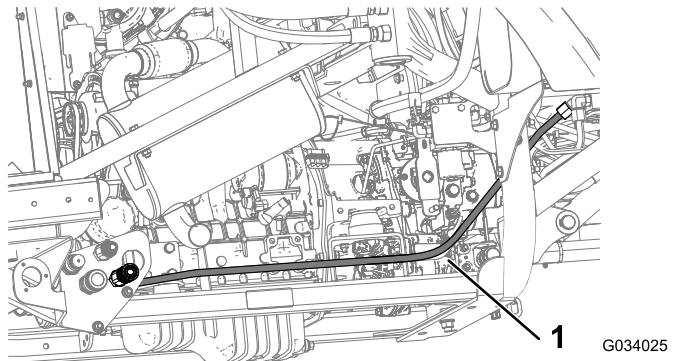

Figure 24
4. Install the hydraulic hose F from the 45° fitting to the bulkhead union (2.57 inches) on the quick-coupling fitting (1/2 x 1/2 inch female) on the bulkhead assembly as shown in Figure 24.